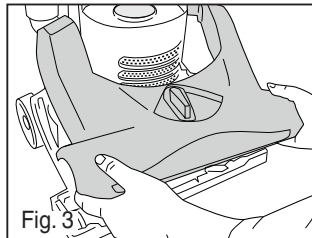

Fig. 3
- 3) Lift off brush roll cover. (Fig. 3).
- 7) Replace brush roll cover (Fig. 3).
- 3) **Hose connector** – remove dust cup and remove debris from hose connector opening. If still blocked, remove screw © from hose connector and remove blockage (Fig. 3).